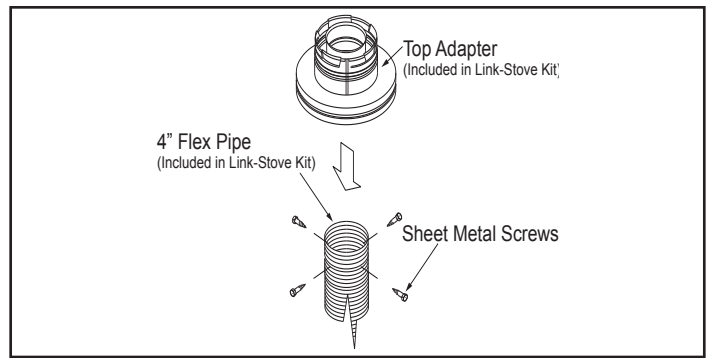

Figure 4.21
3. Connect the end of the flex pipe section to the underside of the top adaptor, using four sheet metal screws. See Figure 4.21.
5. Connect the flex liner to the top adapter using three sheet metal screws. See Figure 4.21.